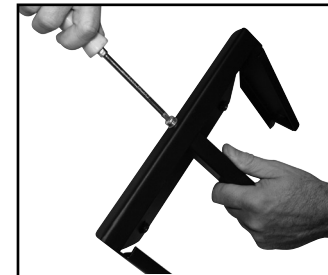

Fig. 3
3. Install the tension tube to the front of the bracket using the hex head cap screw, flat washer, and flat washer as shown. (See Fig. 3)